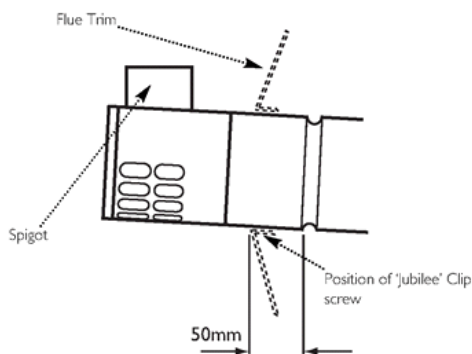

Fig. 21h
5. If required, the flexible flue trim should be fitted prior to this as it cannot be fitted after. Use the large 'Jubilee' clip to secure the trim to the flue (See Fig. 21h, trim shown dotted), with the screw part of the clip at the bottom.